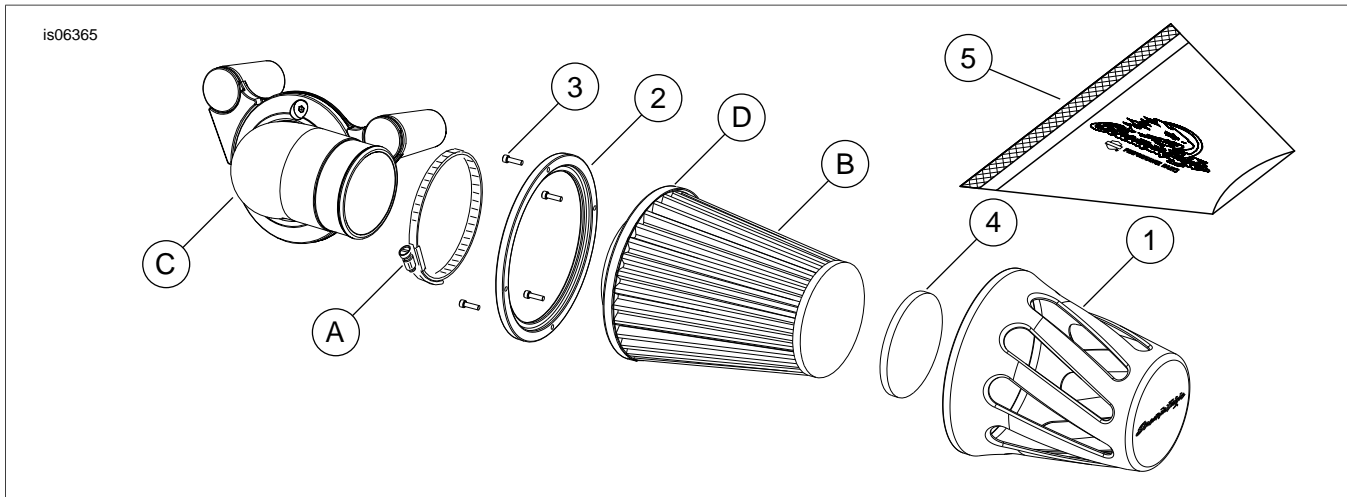

Figure 1. Service Parts: Heavy Breather Decorative Cover (Twisted Slot Shown)
See Figure 1 and Table 1.
3. See Figure 1. Loosen the band clamp (A) and pull the air filter (B) off of the intake tube (C).
6. See Figure 1. Remove the adhesive backing and place the foam circle (4) inside of the small end of the decorative cover.
7. With the filter element removed and cleaned, place the decorative cover (1) over the filter element (B). The band clamp cover (D) must be in place to make sure the decorative cover fits properly.